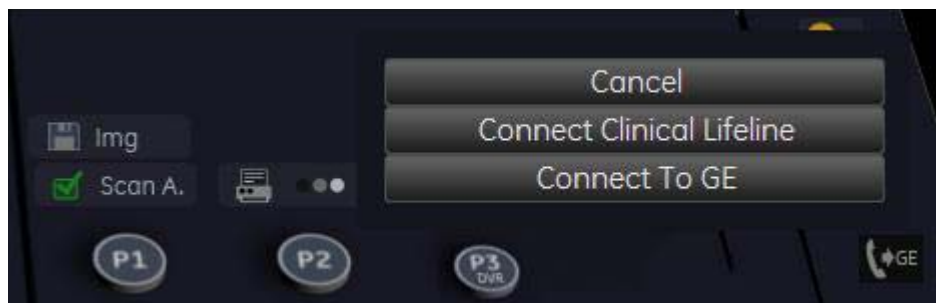

Figure 7-13 Connect Clinical Lifeline
- 3.) Select **Connect Clinical Lifeline** (see: Figure 7-13 below).